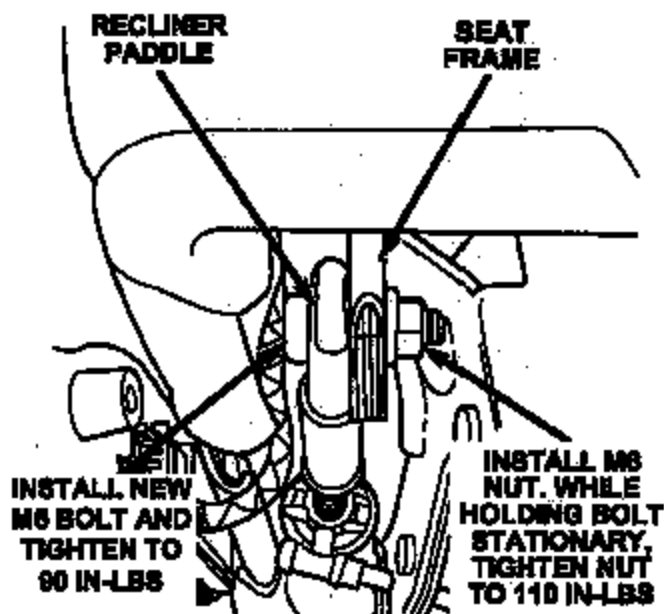

Figure 3
5. **Using a 1/4" drive air ratchet and a T30 Torx bit,** install one of the supplied bolts into the hole in the recliner paddle (Figure 3) and then into the hole in the seat back frame. Using an inch-pound torque wrench, **tighten the bolt** (without the nut attached) to 90 in-lbs (10.2 N-m).
6. Install one of the supplied nuts onto the bolt (Figure 3). While holding the bolt stationary, tighten the nut to 110 in-lbs (12.5 N-m).